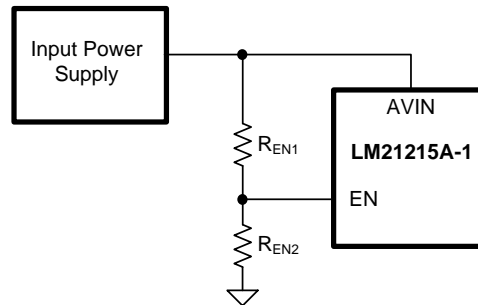

Figure 30. Input Voltage Turn-on Setpoint Configured by Enable Resistor Divider
The LM21215A has a built-in undervoltage lockout protection circuit that prevents the device from switching until the input voltage reaches 2.7 V (typical). The UVLO threshold has 200 mV of hysteresis that prevents the device from responding to power-on glitches during startup. As mentioned above, adjust the turn-on threshold of the supply by using the precision enable pin and a resistor divider network connected to VIN. Please refer to Figure 30 of the *Detailed Design Procedure* section for more detail.
The Enable (EN) pin of the LM21215A allows the output to be toggled on and off. This pin is a precision analog input. When the voltage exceeds 1.35 V, the converter begins to regulate the output voltage as long as AVIN has exceeded the UVLO threshold voltage of 2.7 V. There is an internal pullup current source of 2  $\mu$ A connected to EN. If enable is not used, the device turns on automatically. Also, if EN is not toggled directly, the device can be set to turn on at a certain input voltage higher than the internal UVLO rising threshold. This is achieved with an external resistor divider from AVIN to EN and EN to AGND as shown in Figure 30.